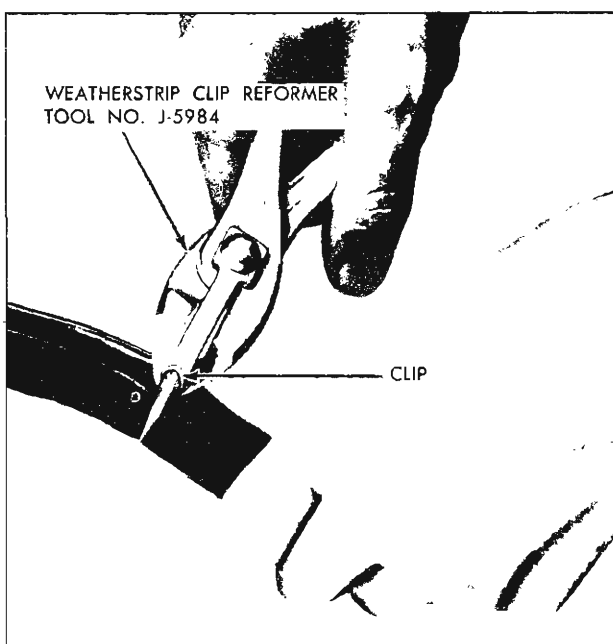

Fig. 36—Reforming Weatherstrip Clips
1. Check weatherstrip attaching clips for proper contour and reform, if necessary, using clip reforming tool J-5984 (fig. 36).
1. Check all weatherstrip attaching clips for proper contour and reform, if necessary, using clip reforming tool J-5984 (fig. 36).